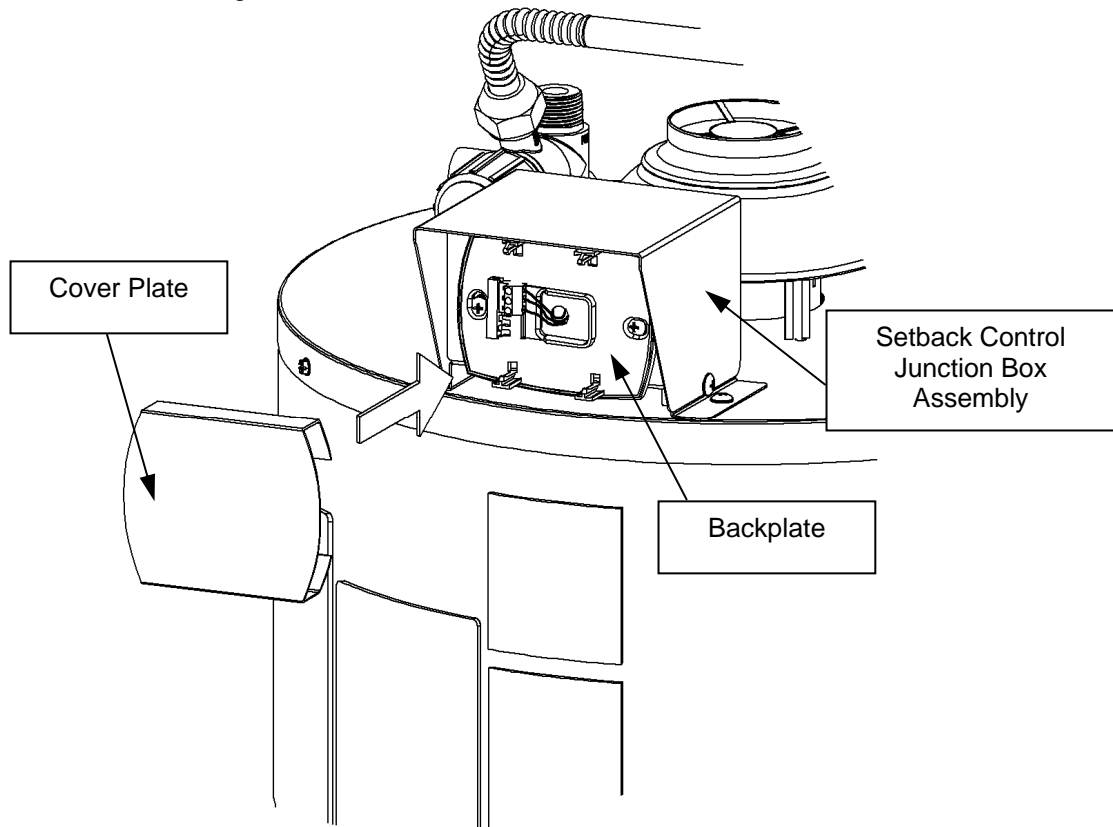

Figure 27
Step 22: Snap the Setback Cover Plate onto the backplate (located on the Setback Control Junction Box Assembly). This is shown in Figure 27.